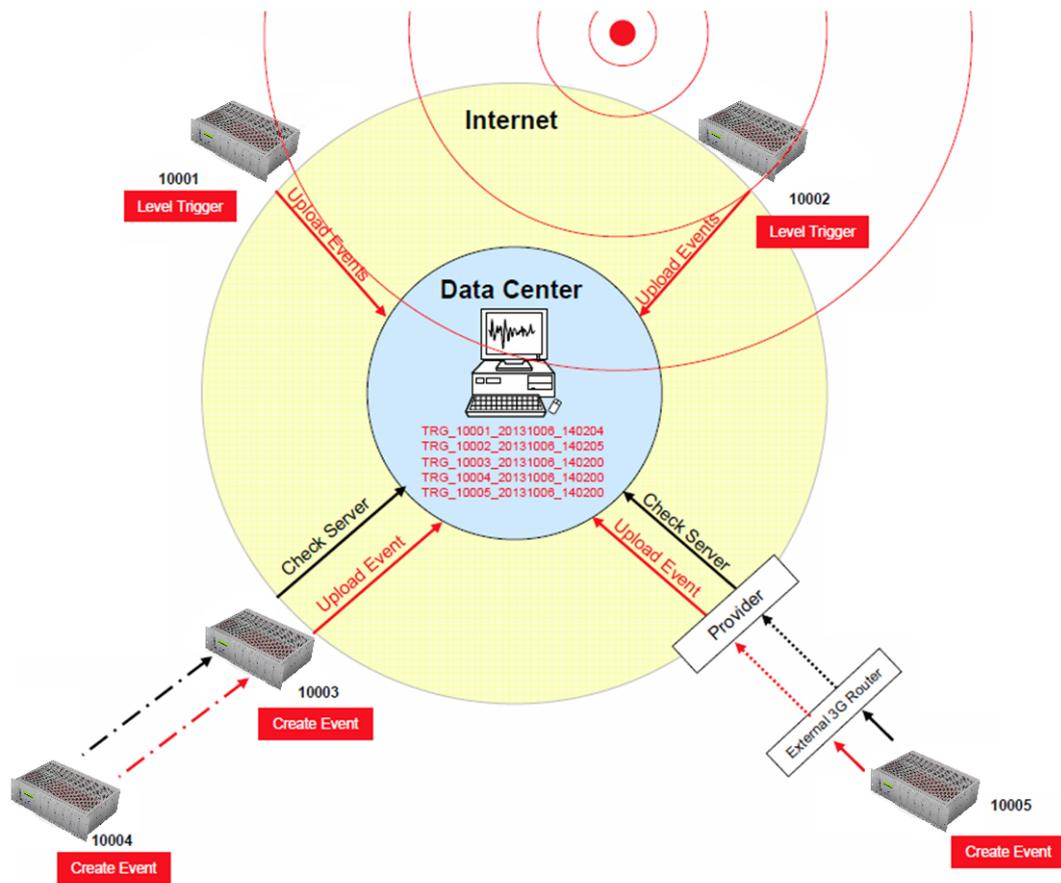

Figure 27: Behaviour on Events: Upload of extracted events
- All instruments will download the request during the next time checking the server (see Figure 27)
- The extracted event file will be uploaded to the data server (see Figure 27)